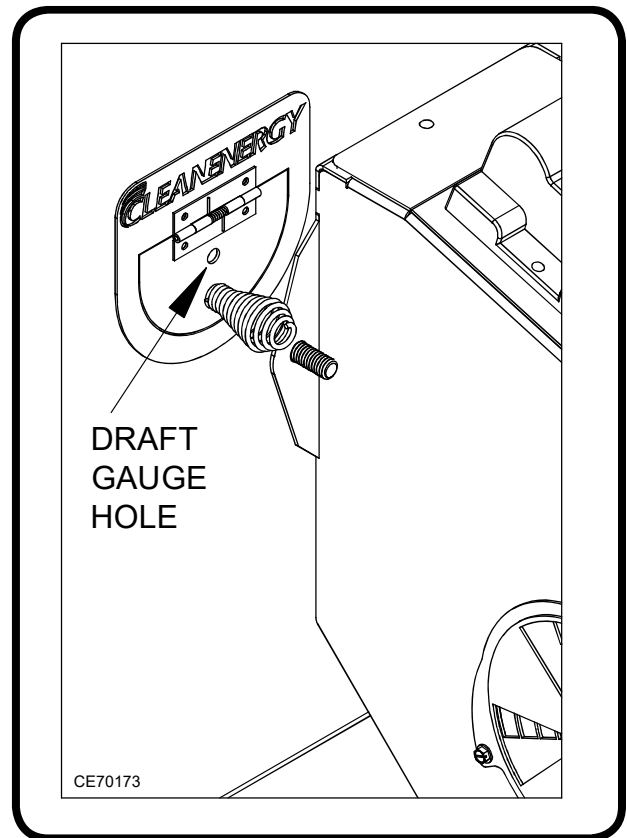

Figure 26: Draft Gauge Hole in the Observation Port
- (1) Allow the boiler to run for 5 to 10 minutes.
- (2) Refer to Figure 26 to locate the draft gauge hole.
- (3) Insert a draft gauge through the hole in the observation port. Follow the manufacturers instructions for adjusting the barometric damper to obtain -0.02" w.c. draft over fire.
- (4) If a proper draft is not obtained, follow the instructions below to check for a vacuum in your building.